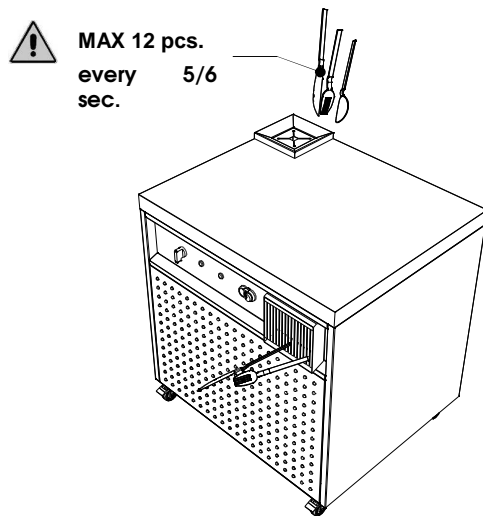
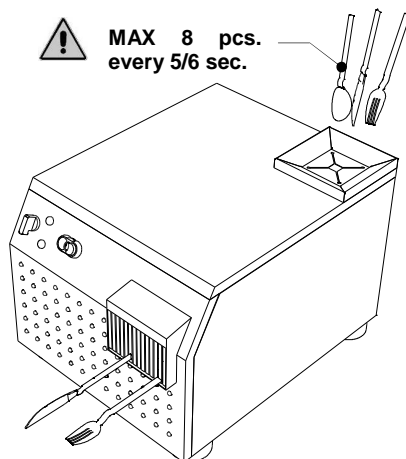

Figure 7 – Insertion of cutlery in the CUTLERY DRYER model JET
Figure 8 – Insertion of cutlery in the CUTLERY DRYER model MIG
3. Insert from the entrance opening (Figure 7 and Figure 8) the number of pieces of cutlery according to the model of the machine, at intervals of 5/6 seconds;